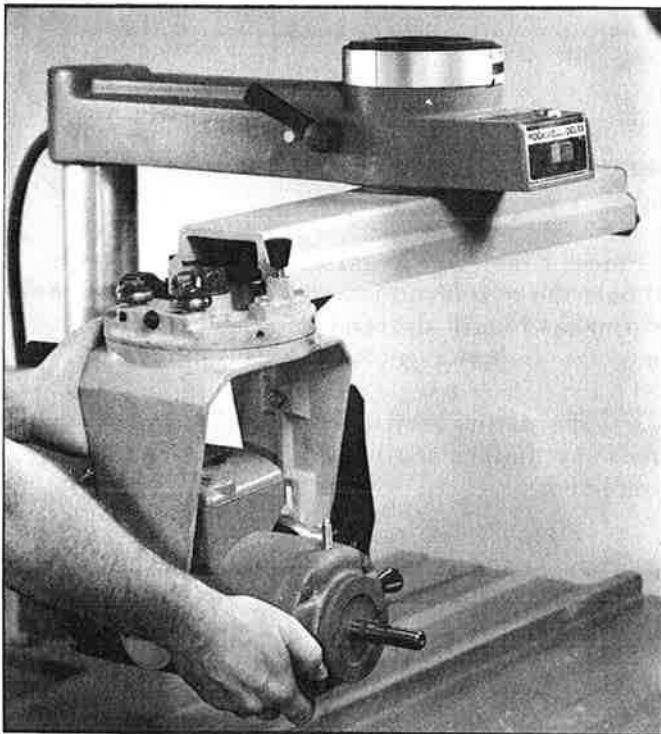

Fig. 9
4. Slip the cuttinghead in the track arm as shown in Fig. 9, and attach rear plate to the track-arm with screws and rubber washers provided.